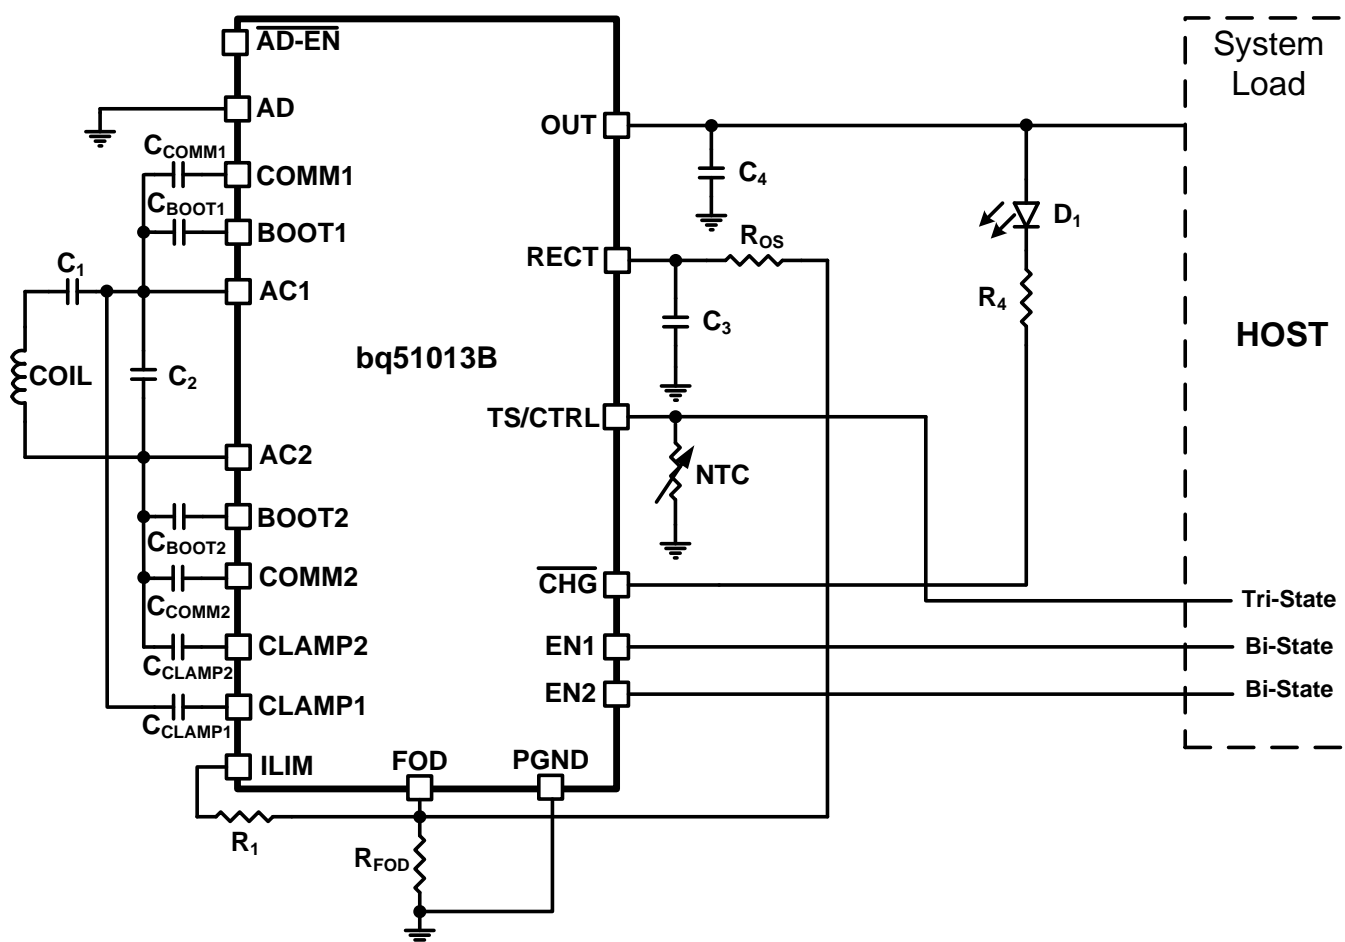
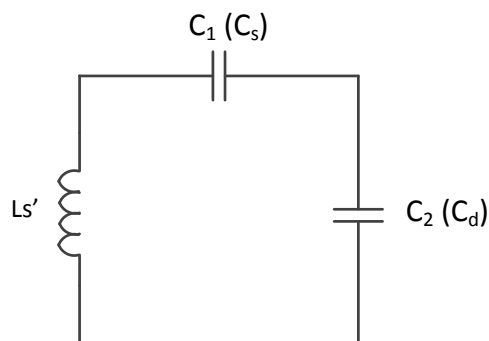

Figure 38. bq51013B Used as a Wireless Power Receiver and Power Supply for System Loads
Figure 39. Dual Resonant Circuit With the Receiver Coil
9.2.1.2.1 Using The bq51013b as a Wireless Power Supply: (See Figure 38)
When the system shown in Figure 38 is placed on the charging pad, the receiver coil is inductively coupled to the magnetic flux generated by the coil in the charging pad which consequently induces a voltage in the receiver coil. The internal synchronous rectifier feeds this voltage to the RECT pin which has the filter capacitor C3.
Shown in Figure 38, the capacitors C1 (series) and C2 (parallel) make up the dual resonant circuit with the receiver coil. These two capacitors must be sized correctly per the WPC v1.1 specification. Figure 39 illustrates the equivalent circuit of the dual resonant circuit: